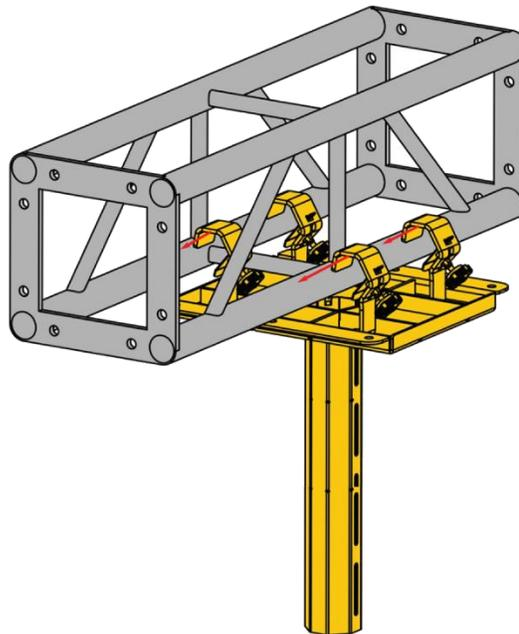

Figure 76:
2. Hook the truss clamps to the truss structure, as shown in **Figure 76**.